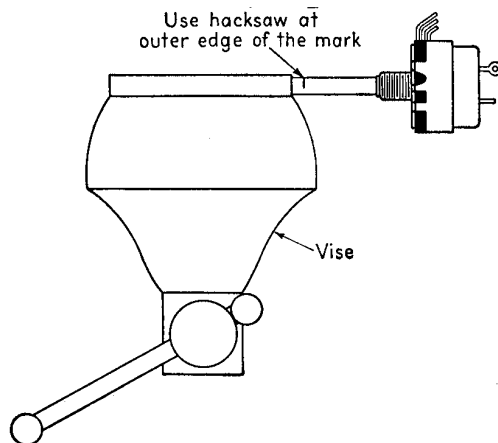

FIG. 11-12.—Cutting the volume-control shaft to size.
- Clamp excess portion in vise with mark showing and cut to the mark with a hacksaw, as shown in Fig. 11-12.